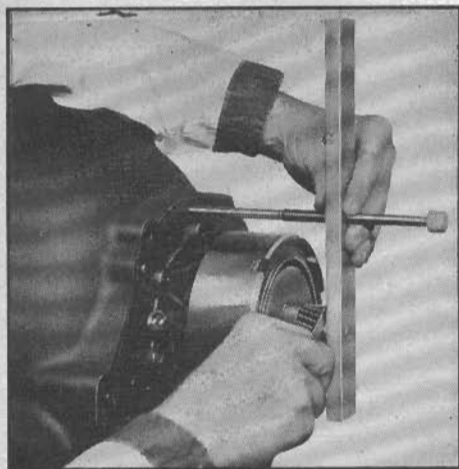

Fig. 64 Checking for proper low to reverse sun gear clearance. 1950-59
tool against face of reverse sun gear. While holding tool in this position, tighten thumb screw. (C) There are three hardened and ground steel washers furnished with this tool which are .070", .095" and .120". These washers are the same thickness as bronze thrust washers available for service. (D) Select the .095" steel washer furnished with the tool and place it over the tool pilot. Insert pilot into bore of low sun gear and, while holding tool securely, check clearance between end of low sun gear and steel washer with feeler gauge, Fig. 64; clearance should be .007-.035". (E) If clearance is not within above limits, remove tool and recheck, using either the .070" or .120" steel washer furnished with the tool until the proper clearance is obtained. (F) When proper clearance is obtained, the thickness of the steel washer used is the thickness of the bronze washer required for transmission assembly.